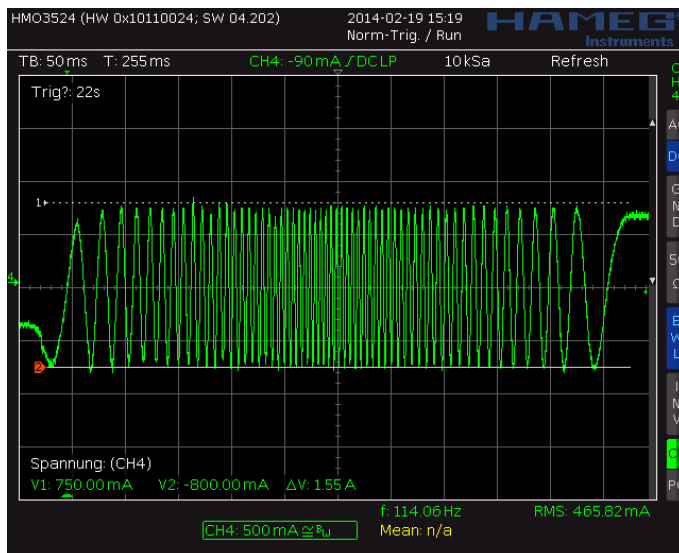
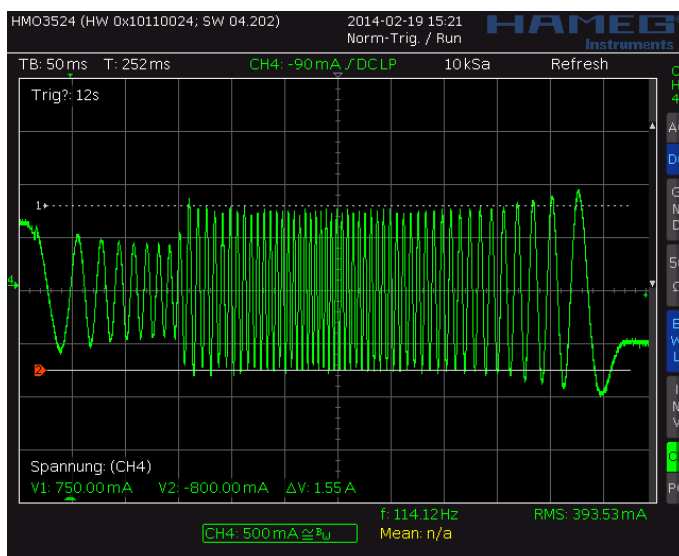
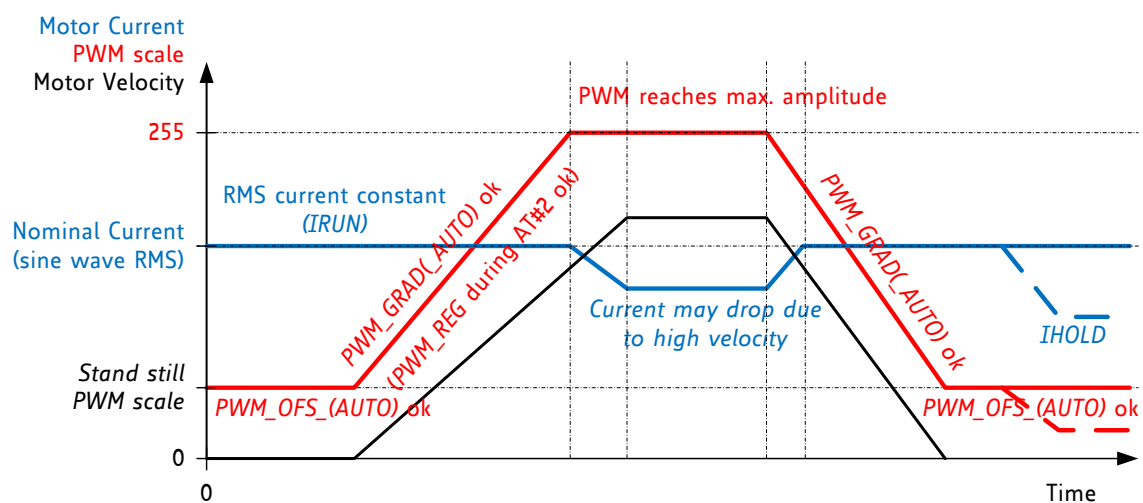

Figure 6.3 Scope shot: good setting for PWM\_REG
Figure 6.4 Scope shot: too small setting for PWM\_REG during AT#2
Figure 6.5 Successfully determined PWM\_GRAD(AUTO) and PWM\_OFS(AUTO)
In StealthChop voltage PWM mode, the autoscaling function (*pwm\_autoscale* = 1, *pwm\_auto\_grad* = 1) regulates the motor current to the desired current setting. Automatic scaling is used as part of the automatic tuning process (AT), and for subsequent tracking of changes within the motor parameters. The driver measures the motor current during the chopper on time and uses a proportional regulator to regulate *PWM\_SCALE\_AUTO* in order match the motor current to the target current. *PWM\_REG* is the proportionality coefficient for this regulator. Basically, the proportionality coefficient should be as small as possible in order to get a stable and soft regulation behavior, but it must be large enough to allow the driver to quickly react to changes caused by variation of the motor target current (e.g. change of *VREF*). During initial tuning step AT#2, *PWM\_REG* also compensates for the change of motor velocity. Therefore, a high acceleration during AT#2 will require a higher setting of *PWM\_REG*. With careful selection of homing velocity and acceleration, a minimum setting of the regulation gradient often is sufficient (*PWM\_REG*=1). *PWM\_REG* setting should be optimized for the fastest required acceleration and deceleration ramp (compare Figure 6.3 and Figure 6.4). The quality of the setting *PWM\_REG* in phase AT#2 and the finished automatic tuning procedure (or non-automatic settings for *PWM\_OFs* and *PWM\_GRAD*) can be examined when monitoring motor current during an acceleration phase Figure 6.5.